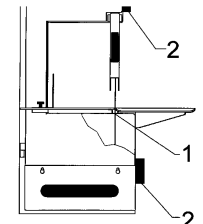

Fig.7.8.1
7.8. Cleaning of blade-guide bosses (Fig. 7.8.1)